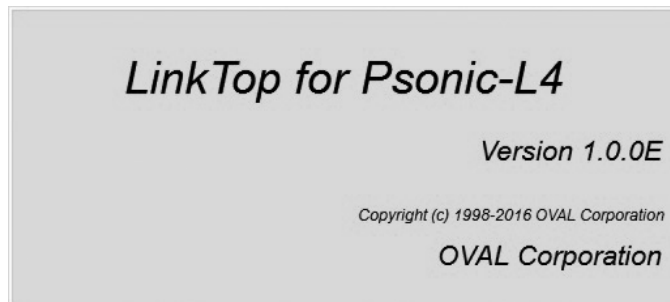
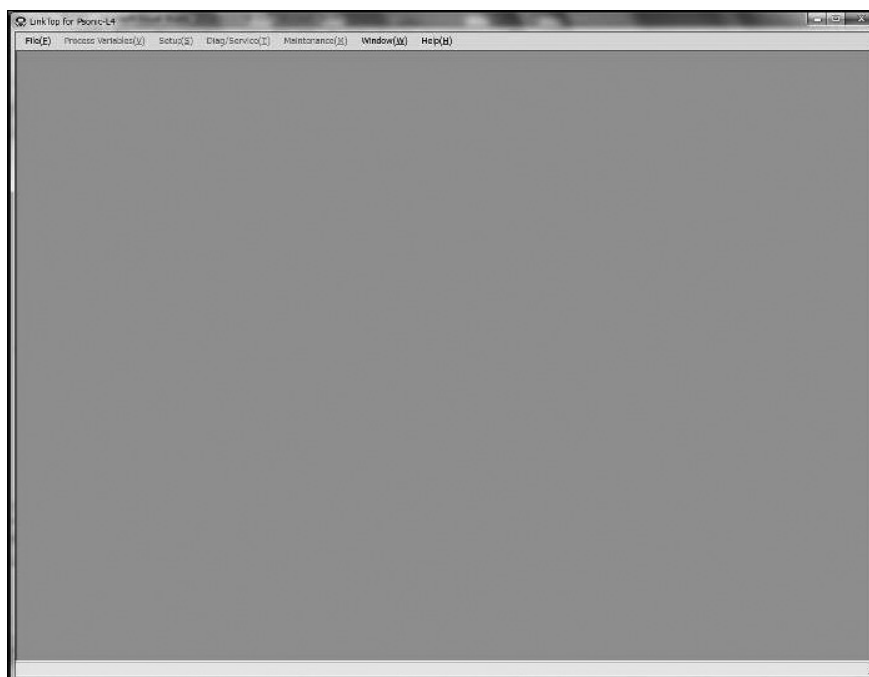

Fig. 3-2
Fig. 3-3
- (1) To initiate LinkTop, click "Start" at the bottom left of the PC screen, and then click "LinkTop for Psonic-L4 (E) Ver1.0.0" in "Program".
- (2) The following window (Fig. 3-2) will be displayed and it is possible to verify the version of the software.
- (3) After the window shown in Fig. 3-2 is displayed for a few seconds, the main window (Fig. 3-3) will be displayed.